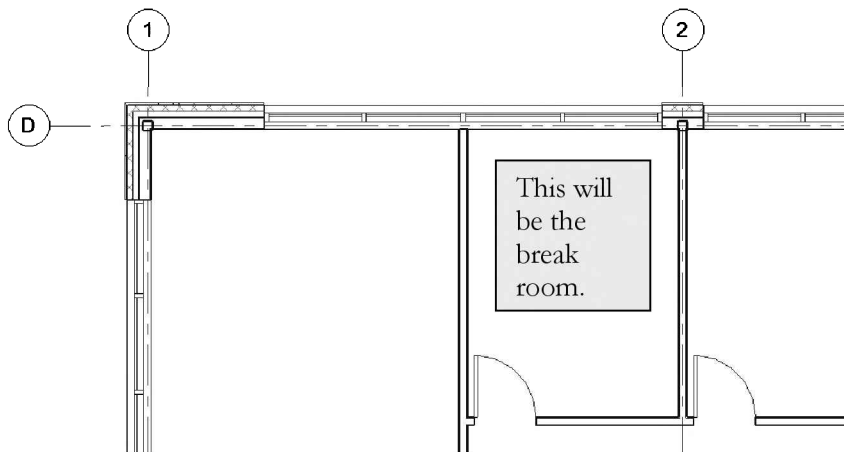

FIGURE 11-2.1 Level 1 – Northwestern corner
2. Switch to **Level 1** view and zoom in to the area shown in Figure 11-2.1.